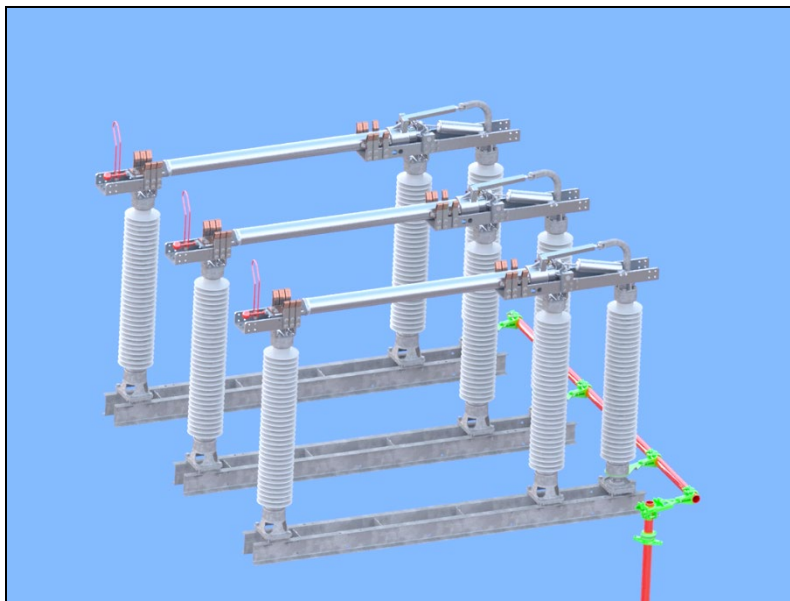
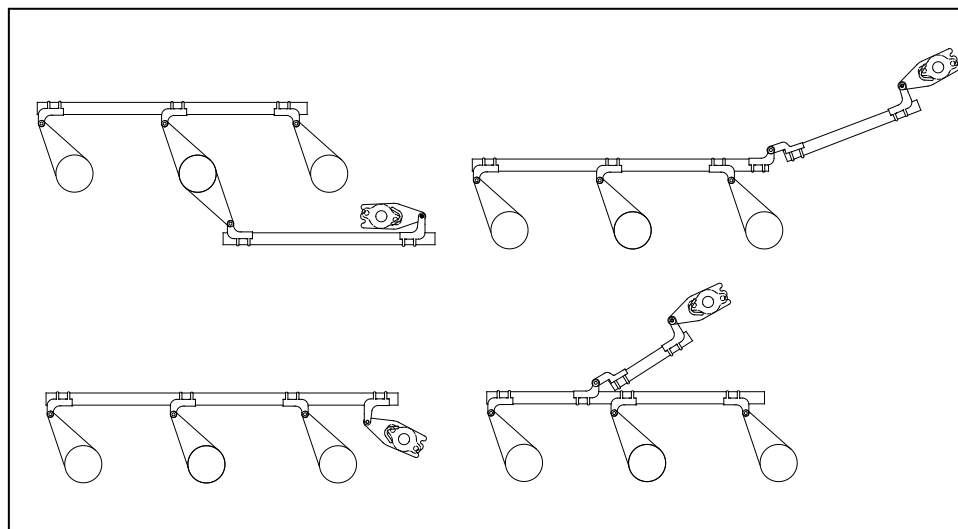

Figure 13: Typical Operating Mechanism for EV-2H
Figure 14: Alternate Operating Mechanism Designs
- 5.2. **Figure 13** shows a typical operating mechanism for a 145kV vertical break switch. **Figure 14** shows alternate operating mechanism designs, each of which is employed as being the simplest arrangement for a given structure. In all cases, however, the operating principle remains the same, and the methods of installation and adjustment are virtually identical.